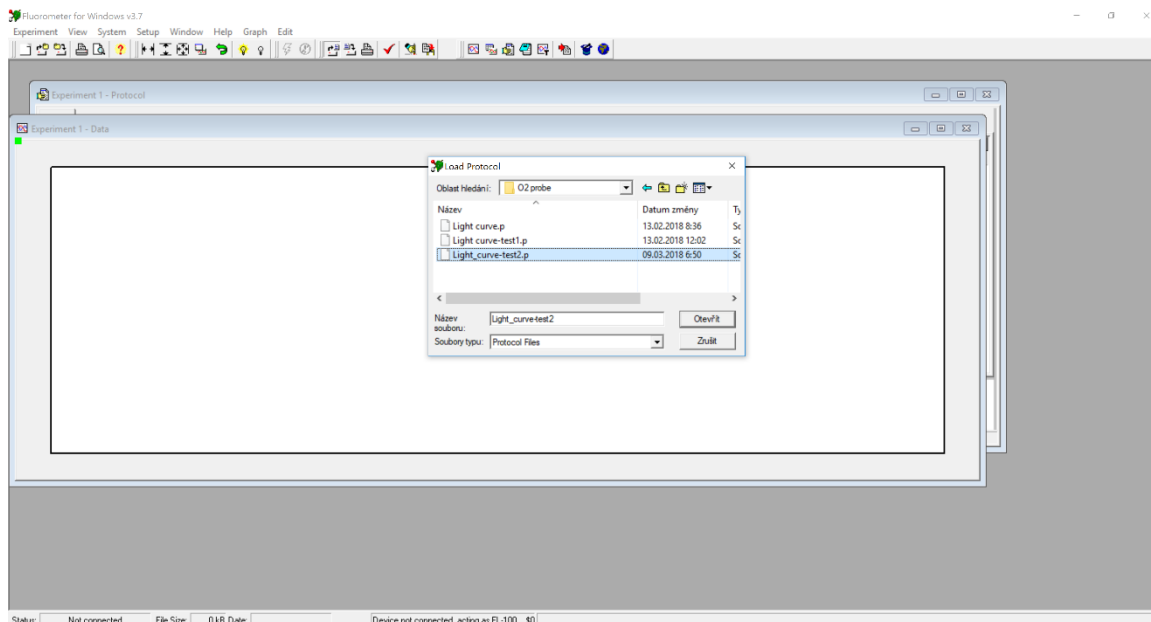

Fig. 8 Protocol selection.
3. **Select** the required **protocol** (Fig. 8). Please note that protocols are saved in format *file name.p*.